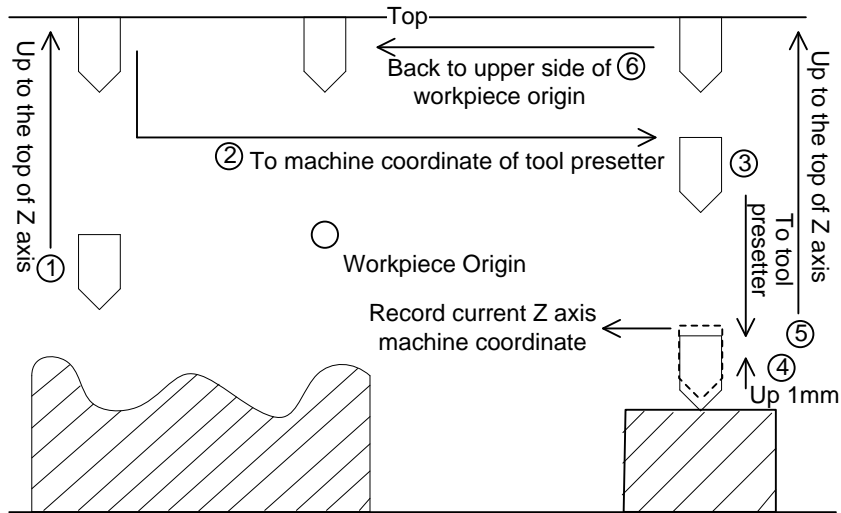

Fig. 3-20 First Calibration
- 2) Secondly, press F5 [Preset], and then press F1 [First Time] to execute the first calibration in the new pop-up manipulation button bar, and the system will record the current machine coordinate value of Z axis automatically, as shown in Fig. 3-20. The system ends this process automatically.